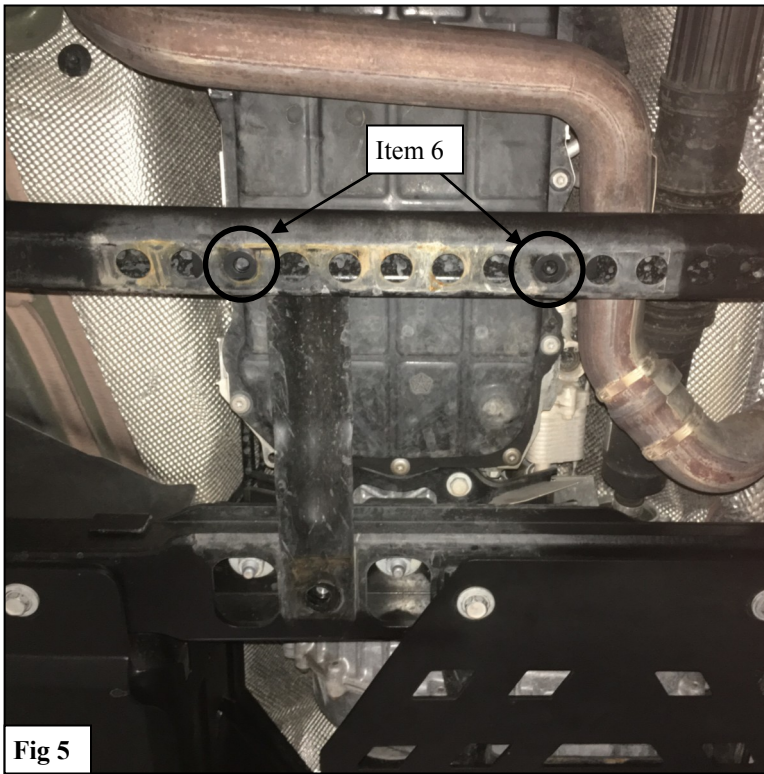

**Fig 4**
5. Install the Front Skid Plate Section (2) to the previously installed brackets using the supplied M8 Hardware. See **Figure 4**.